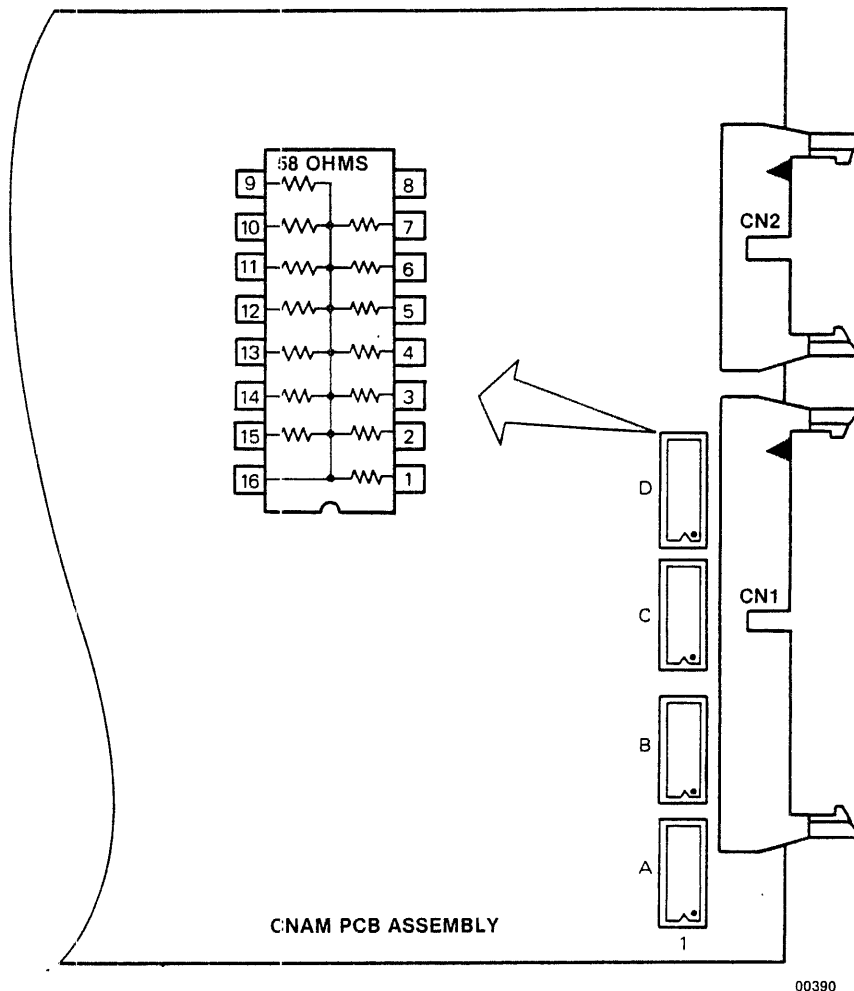

Figure 3-15 SMD Cable Terminators
3.5.6. Cable Termination: When the SMD disk drives are added in a daisy-chain configuration, the A-cable signals are terminated by four resistor networks (16 pin DIP) on the interface board of the last disk drive (Figure 3-15). These resistor DIPs are removed from all disk drives except for the last in the system configuration.